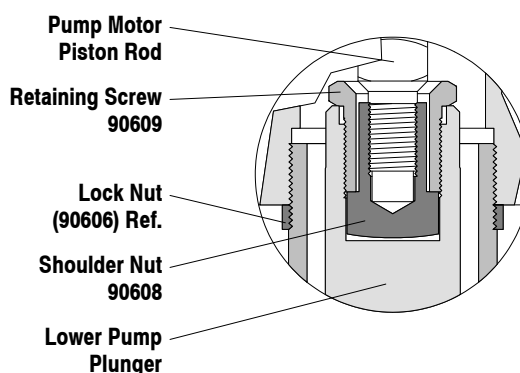

Figure 2
1. Loosen (90606) lock nut and unscrew entire pump from the air motor. This will expose (90609) retaining screw (see figure 2).
1. Slide (90609) retaining screw over air motor rod (see figure 2).